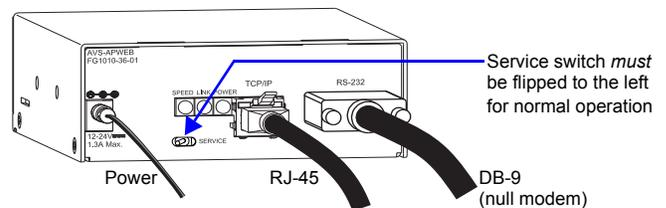
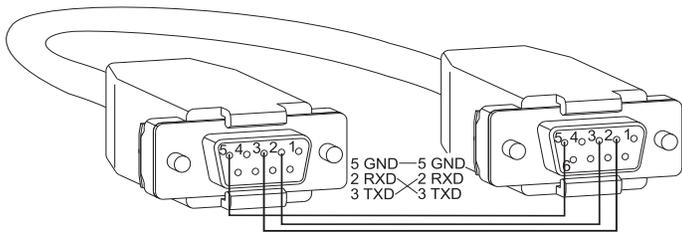

FIG. 4 Attach DB-9, RJ-45, and power connectors to APWeb Module
FIG. 5 RS-232 null modem cable pin diagram
Below the TCP/IP connector is a Service switch (FIG. 4) that can be used to override system security if the username and password are lost (to do so, the Module must be in Service mode with the switch flipped to the right). When the Module is in Service mode, the APWeb Server is disabled. Instructions for restoring the default username and password are in the *APWeb Instruction Manual*.
2. Attach one end of the DB-9 null modem serial cable (see FIG. 5 on the next page for the pinout) to the RS-232 port on the APWeb Module (FIG. 4) and the other end to the serial port on the AMX AutoPatch Distribution Matrix.
4. AMX AutoPatch power supply – plug the desktop power supply into the power jack on the Module (FIG. 4) and into an AC external power source.
Customer provided power supply – plug the power cord from a UL (or equivalent) listed power supply into the power jack on the Module (FIG. 4). The electrical ratings *must* meet those indicated in the specifications table (see left column).
Use the pinout in FIG. 5 when connecting the RS-232 port on the APWeb Module to the distribution matrix.